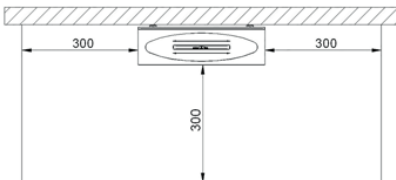

Fig. 5
In order to guarantee sufficient thermal insulation, there must be a minimum distance of 300 mm (see Fig. 5) to flammable components, furniture, decorations and curtains at the side! There must be no objects between the ebios-fire furniture and room ceiling (distance to the ceiling > 1000 mm)!
- No combustible objects may be placed or laid on the free surfaces of the ebios-fire. Do not place items of clothing on the ebios-fire furniture to dry. Racks for drying clothing may only be placed outside the radiation area (Fig. 5)! **Risk of fires!**
Please note: In the radiation area Fig. 5 (in the area of the flames/furniture) the flammable components and furniture within 1000 mm upwards and 300 mm to the sides must be fitted with ventilated radiation protection on both sides.